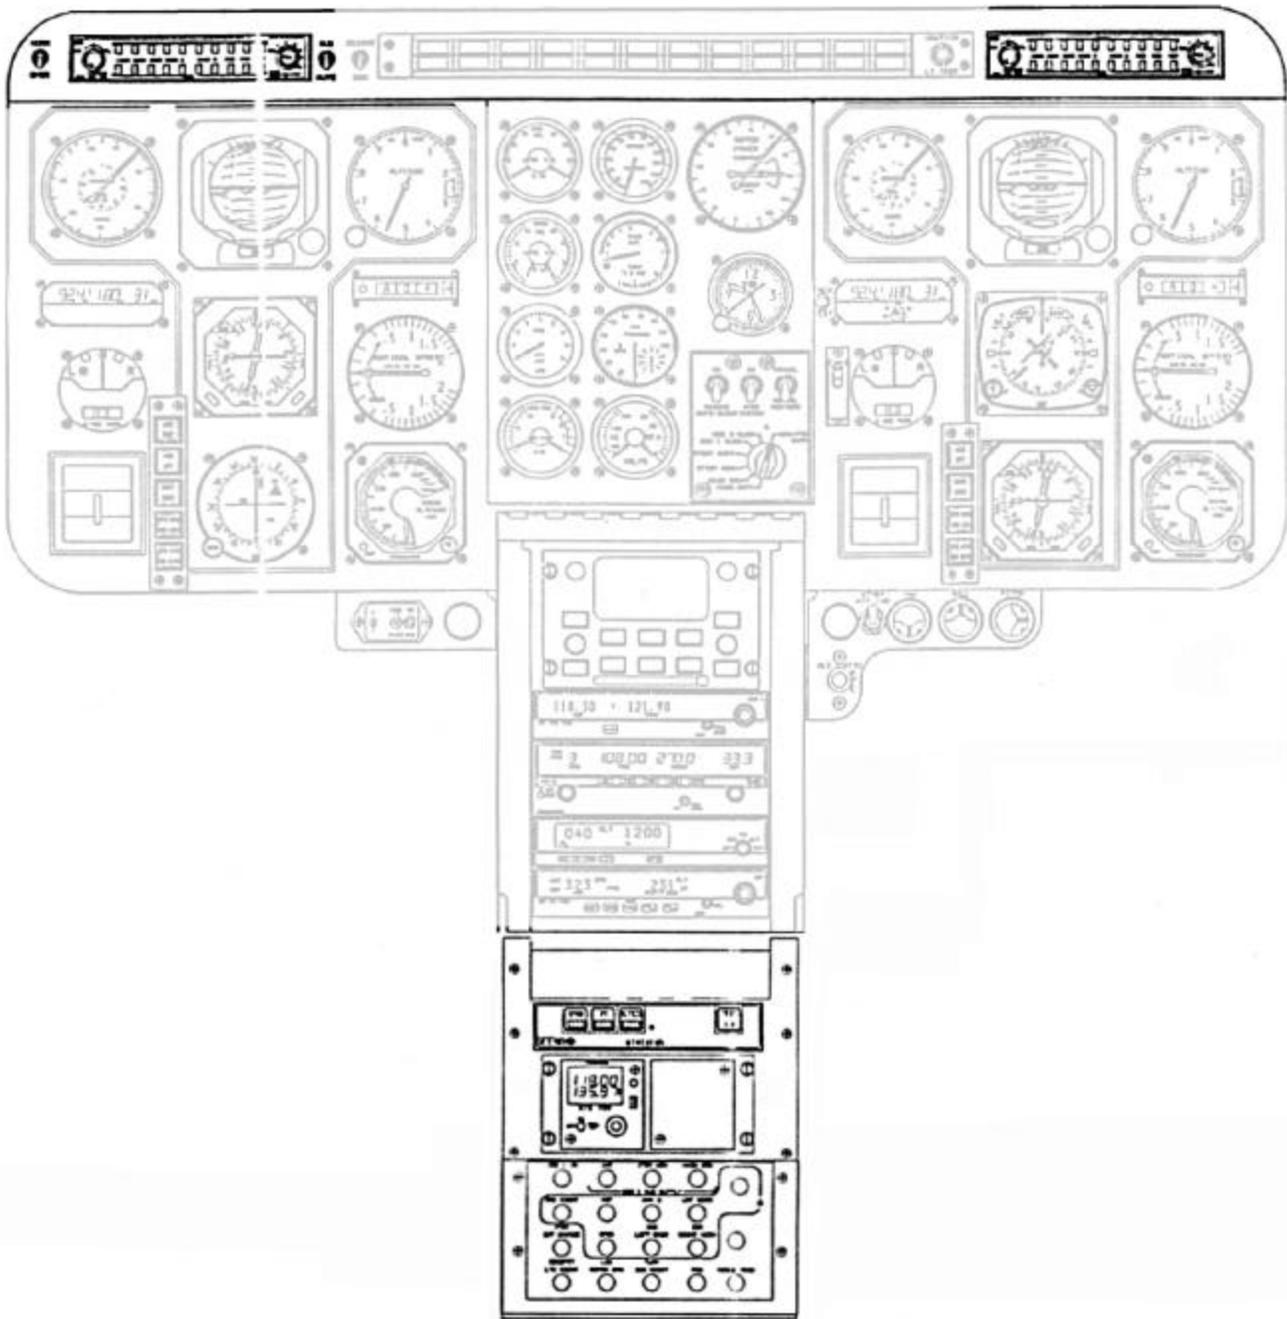

Figure 23-1. Avionic Console TH-57C
The communication system consists of two separate radio communication systems. The UHF AM transceiver (KTR 909) system is designated COMM 1. The VHF AM Transceiver (KY-196) is designated COMM 2. The two systems are presented to the aircrew through the audio control system/ICS to allow for flexible, well integrated, voice communications. Both transceivers are located in the radio console (Figure 23-1). Both systems may be selected/operated simultaneously by either or both aircrew members. (Refer to Chapter 98 for wiring diagram.
The following is a general procedure for energizing the essential 1 and 2 buses when utilizing external power for operational checks of the avionics systems. (Refer to Figure 23-1.)
1. The two KMA-24H audio control panels (Figure 23-1) enable the pilot and copilot to control the audio functions of both communication systems, navigation systems, distance measuring equipment (DME), marker beacon, and the automatic direction finder (ADF). Refer to Chapter 98 for wiring diagram.
Two KMA-24H audio control panels, one for the pilot and one for the copilot, are mounted in the upper right and left corners of the instrument panel, respectively. (Refer to Figure 23-1.)
2. Insert a 3/32-inch Allen wrench through hole in the front panel of the audio control (Figure 23-1).
2. Slide audio control (Figure 23-1) into rack.